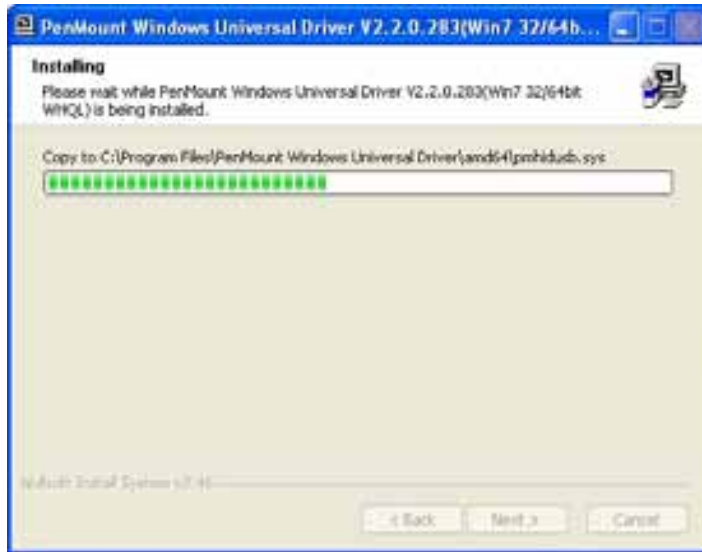

Figure 7-8: Installation Starts
Step 11: The installation of the program begins. See **Figure 7-8**.